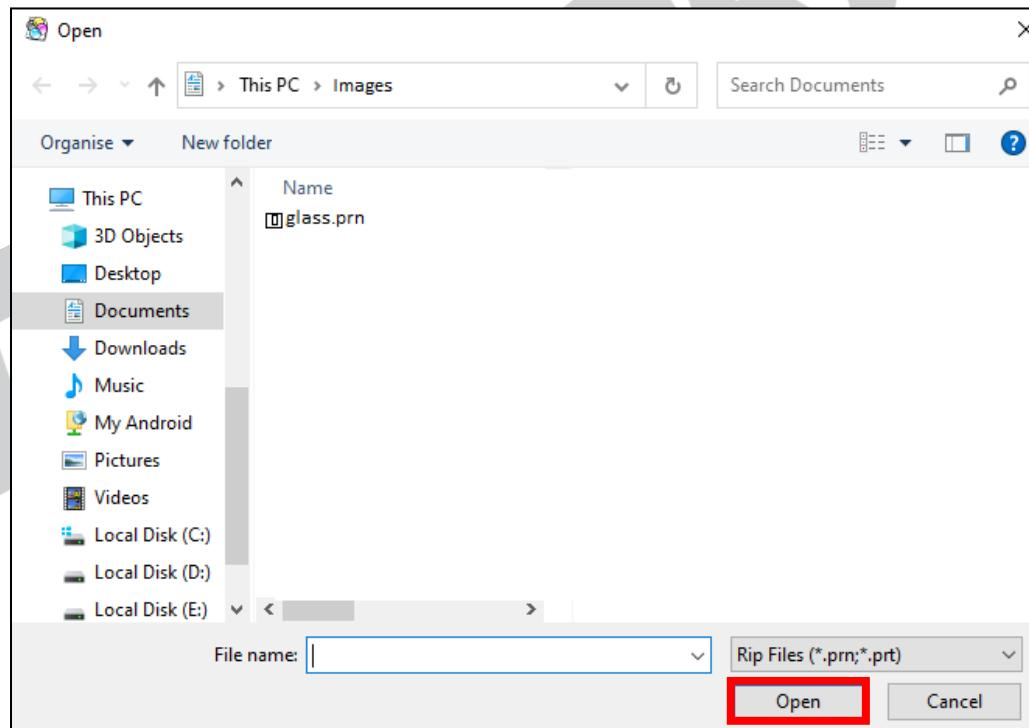

Figure 39: Adding the Job
Step 2 Navigate to the location where the image file with extension “.prt” and “.prn” is stored (Refer to Fig 39).